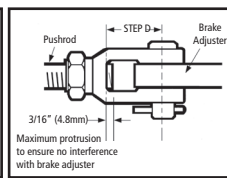

Fig. 3
**Step 5.** Measure and record the length of clevis to be used. This measurement should be taken from the center of the clevis pin hole, to the bottom of the yoke assembly. (See Fig. 3)
**Step 8.** Install the clevis onto the push-rod and secure the jam nut. Torque to specifications listed in Table B on reverse side. Connect the clevis to the brake adjuster using the clevis pin and cotter pins. (Fig. 3)
2. Thread clevis onto the push rod. Clevis from removed unit may be reused provided clevis pin hole is not worn. Adjust clevis to the same "K" dimension as measured from the removed unit (Fig. 3).
3. (cont'd) adjusted so that it has full thread engagement on the push rod (from flush to 3/16" [4.8mm] protrusion). (Fig. 3).